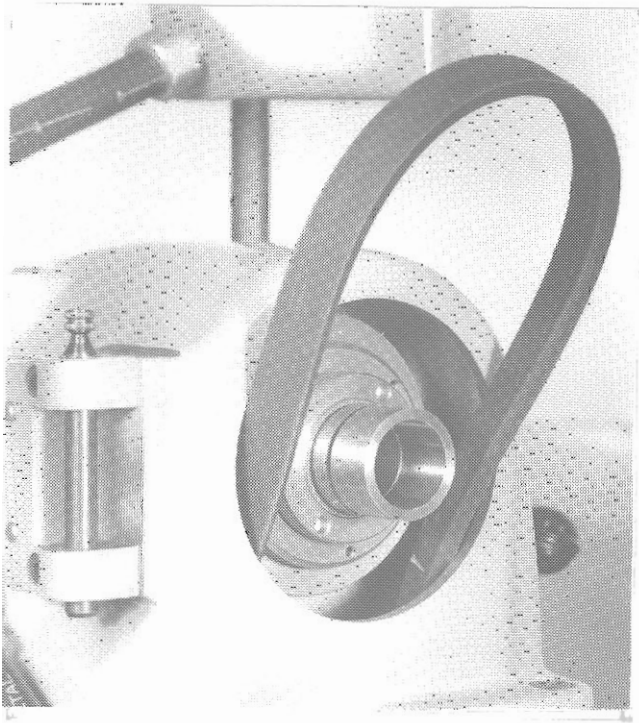

Figure 2.13 - Belt Removal
13. Lift spindle belt from spindle pulley and remove through opening in headstock, Figure 2.13.